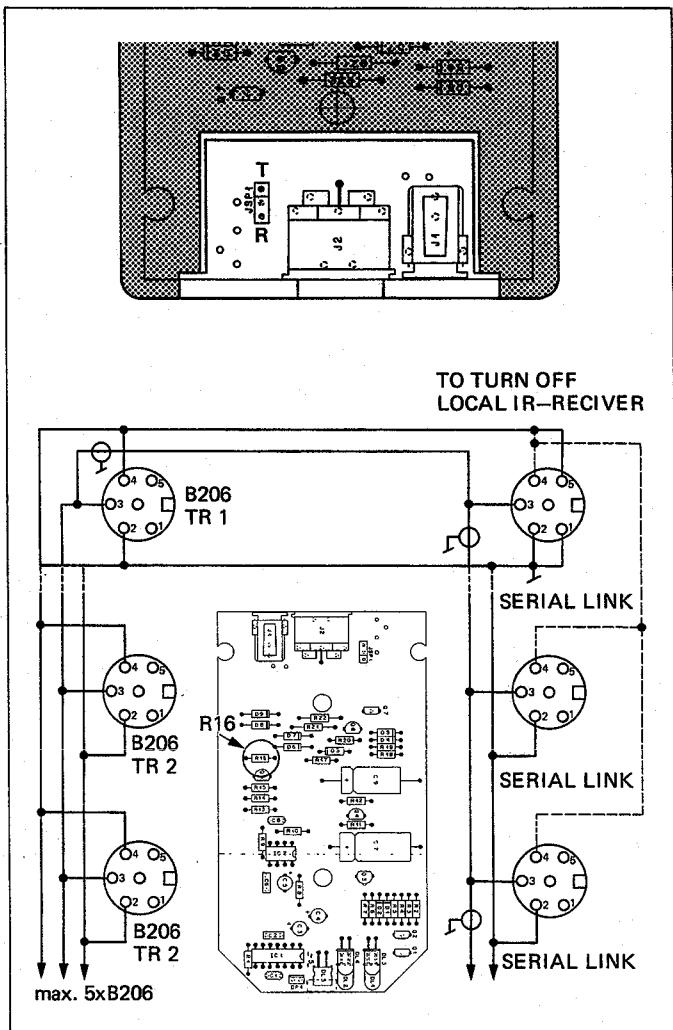

Fig.4.1
2. Wire DIN connector for B206 • Transceiver and the SERIAL LINK socket according to Fig. 4.1.
As can be seen from Fig. 4.1, several B206 • Transceivers as well as several REVOX units can be connected in parallel with SERIAL LINK sockets. The installation must be executed very carefully and the connecting cables should be prepared by an experienced technician.
* On all units with SERIAL LINK the internal IR receiver can be switched off. (In the connector Link pin4 with pin5, as well as pin1 with pin 2. Caution in the case of parallel-connected units: see Fig. 4.1.)